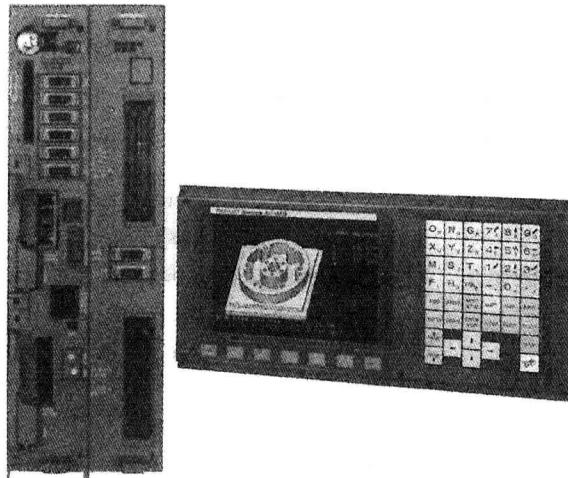

Fig. 1-2 CNC control
The CNC control (refer to Fig. 1-2) will interpret a CNC program and activate the series of commands in sequential order. As it reads the program, the CNC control will activate the appropriate machine functions, cause axis motion, and in general, follow the instructions given in the program. ^①